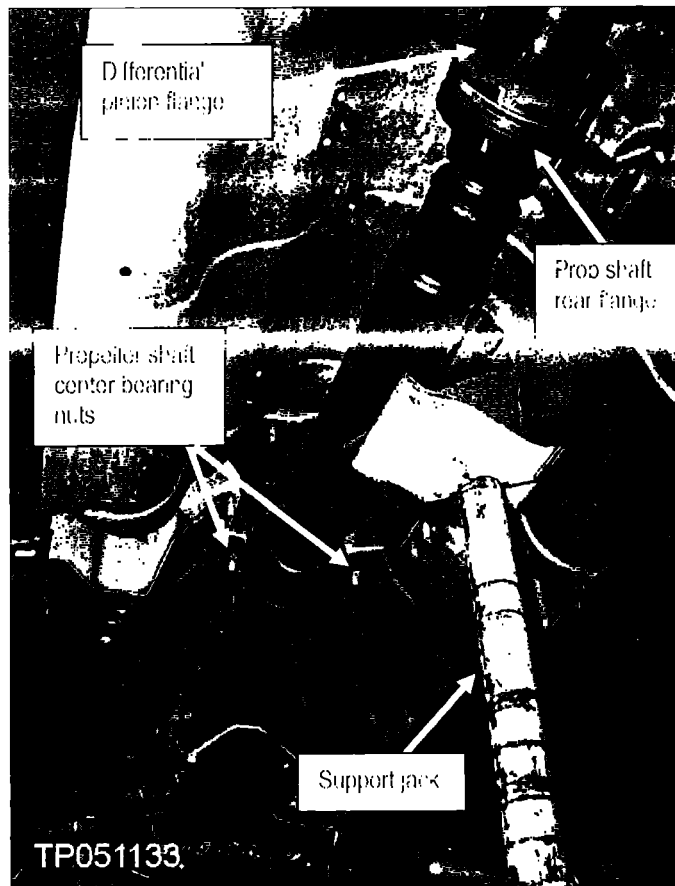

Figure 56
22. Position a support jack about six inches below the propeller shaft (see Figure 56). Then remove and discard the propeller shaft center bearing nuts and carefully lower the shaft onto the support jack.